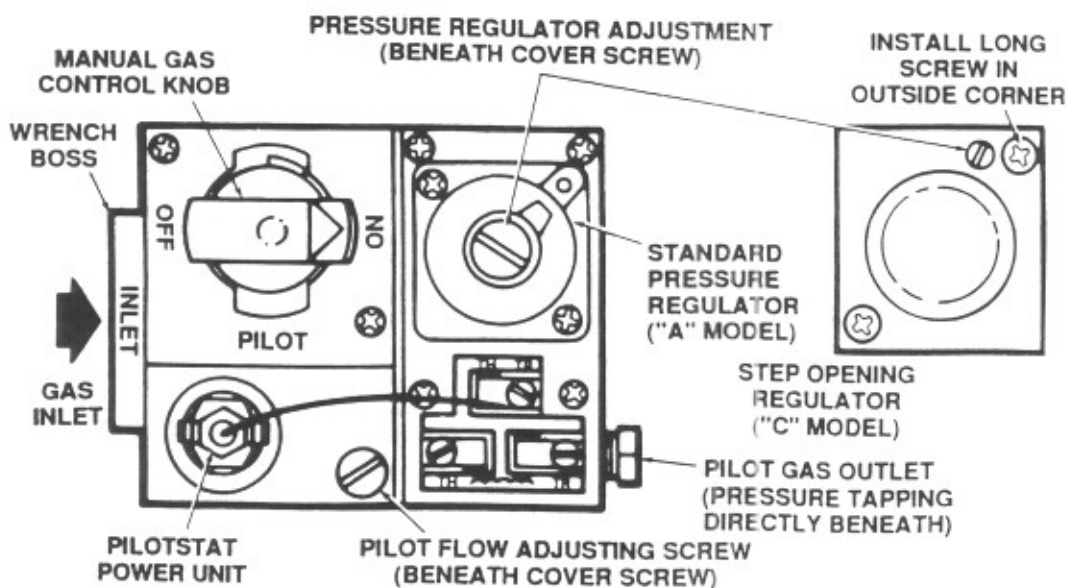

FIGURE 8. TOP VIEW OF STANDARD CAPACITY GAS CONTROL.
- Remove pilot adjustment cover screw. Refer to Figure 8.